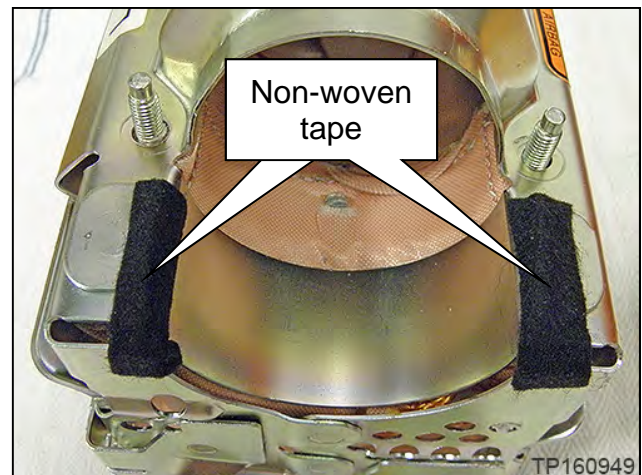

Figure 32
- 30. Apply non-woven tape over the sharp edges where the cuts were made, as shown in Figure 32.